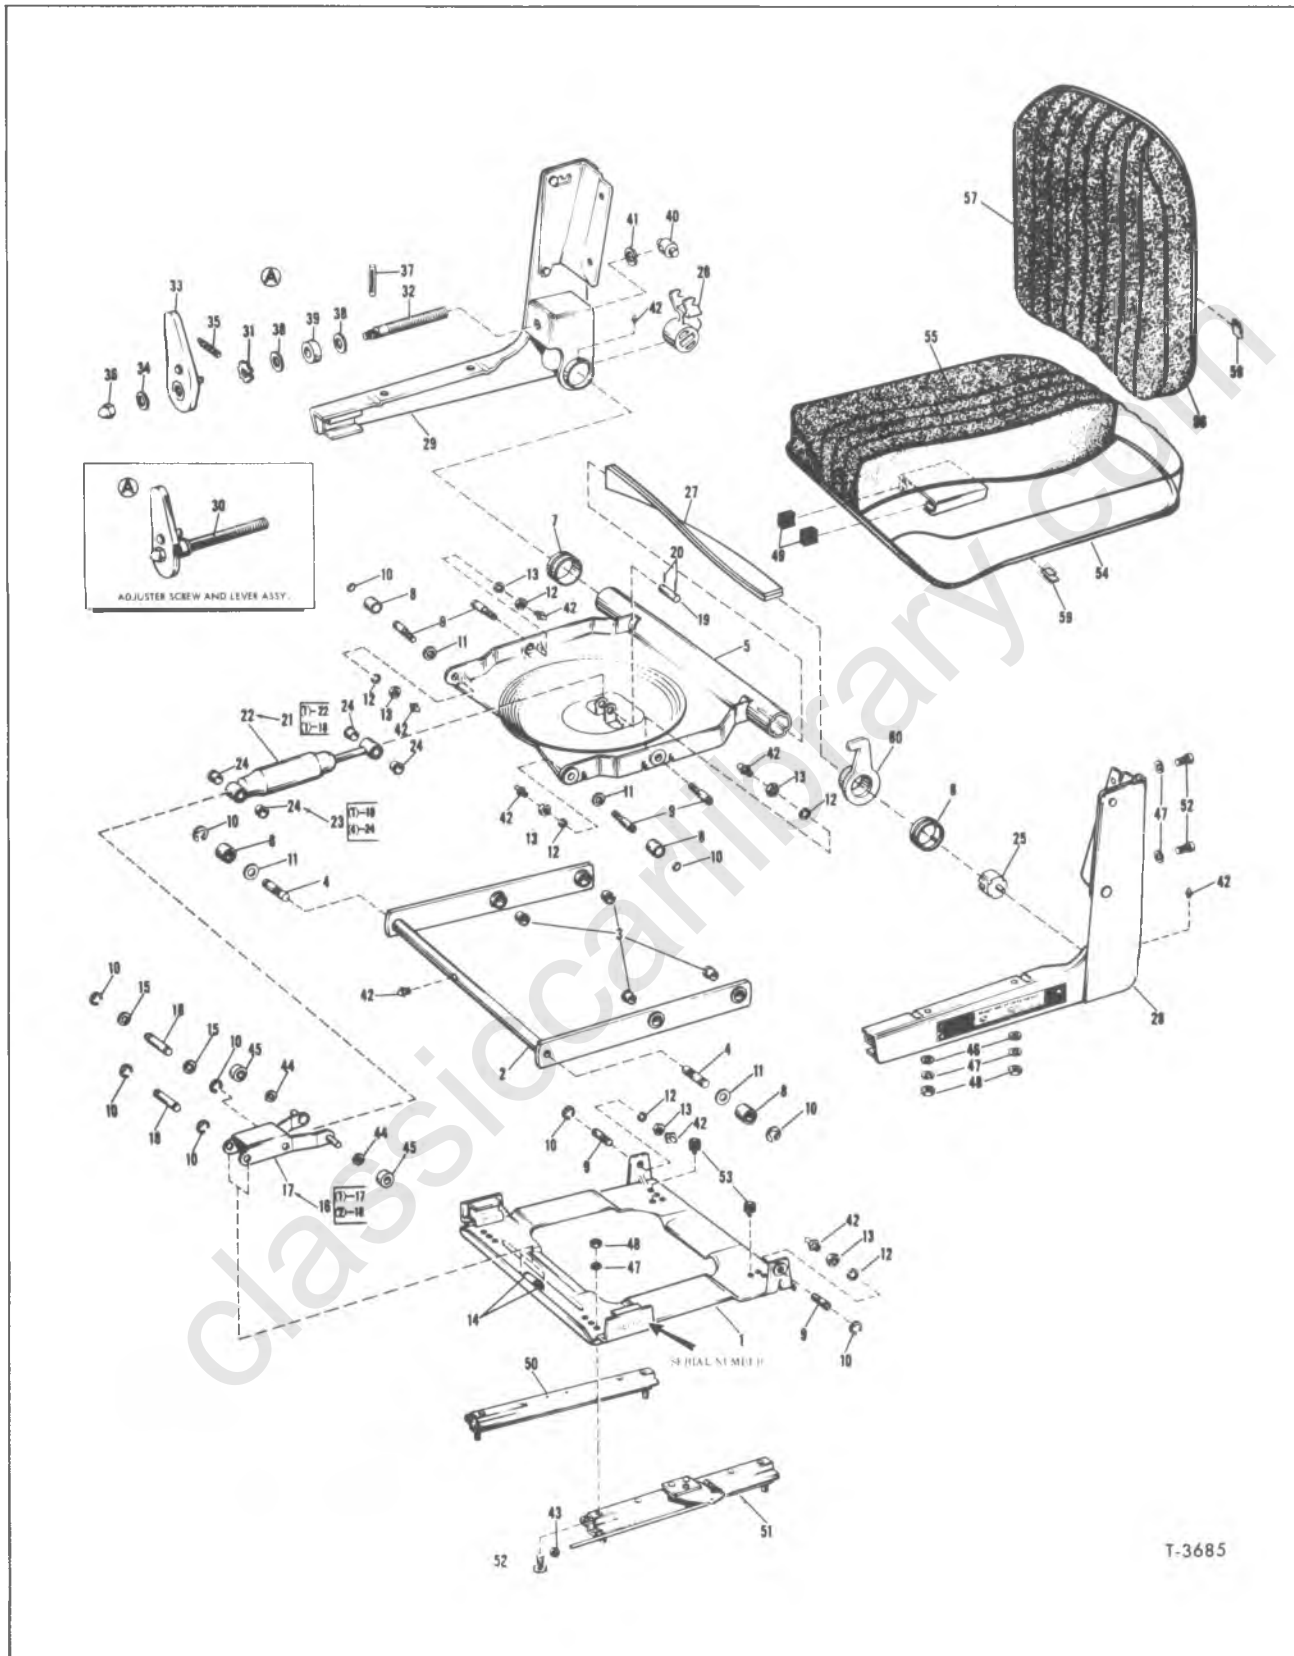

Figure 9—Exploded View of Level Ride Seat
NOTE: Key numbers in following text refer to figure 9.
Legend for Figure 9
4. Reassemble seat cushion moving from front of seat toward rear in order to engage rubber rollers (45) properly in housing under seat cushion.
6. Replace preload adjuster assembly being sure that items (38 thru 41) are in their proper positions. Engage yoke (26) hooked ends over lugs on adjuster pin (40).
7. Preload torsion bars by rotating adjuster lever assembly (30) clockwise (figs. 9 and 12).